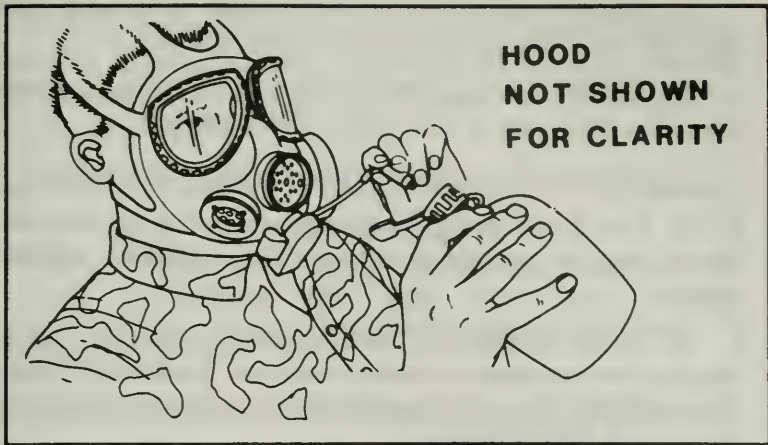
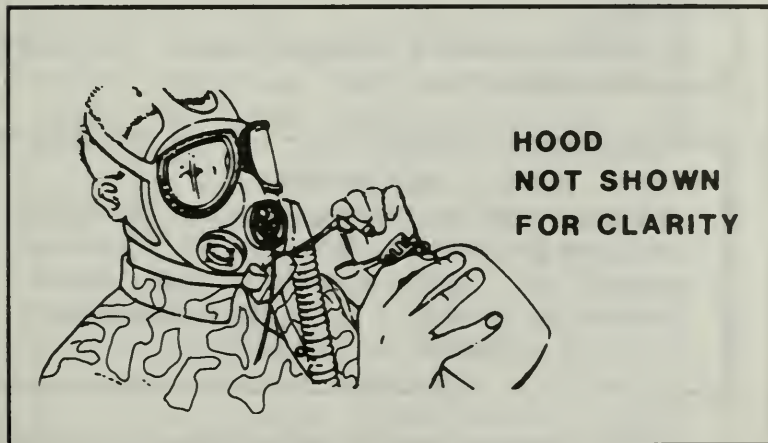

Figure 317A. The M40-Series mask.
Figure 317B. The M42 mask.
1. Drink water while wearing the M40-series protective mask (Figure 317A) or the M42 protective mask (Figure 317B).